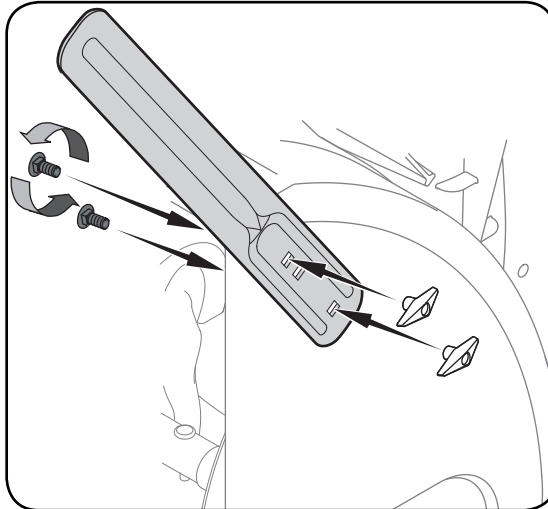

Figure 9
- Reposition drift cutters so they face forward as shown in Figure 9. Secure with hardware previously removed, wingnuts should be fastened on the **outside** of the housing as shown.